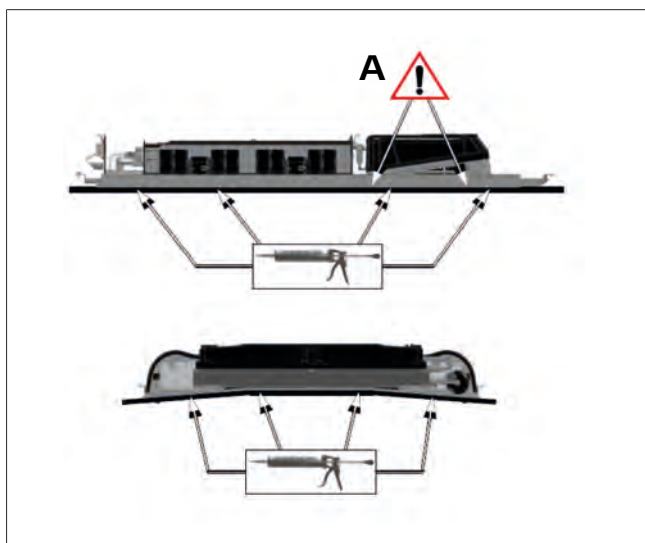

Fig. 8 Sikaflex application Madrid
1. Apply Sikaflex on the non-adhesive side (see Fig. 8).
2. Make sure that rainwater can drain from under the condenser. Do not apply Sikaflex at position "A" (see Fig. 8).